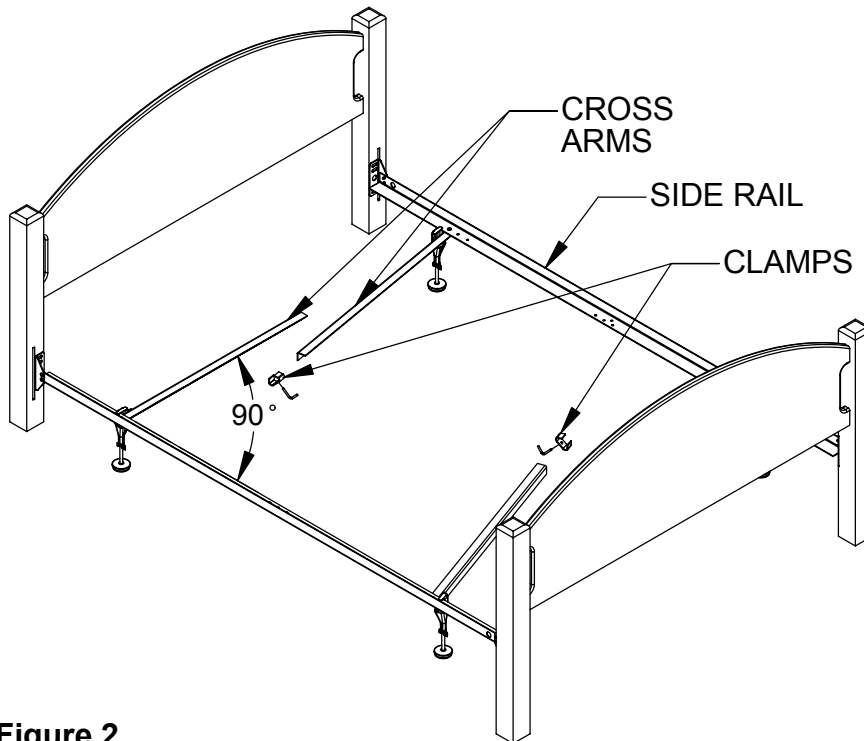

Figure 2
Step 2: Loosely bolt SIDE RAILS to headboard and footboard. Swing CROSS ARMS out 90 degrees. Loosely thread L-SCREWS into CLAMPS and slide CLAMPS onto CROSS ARMS as indicated in Figure 2.